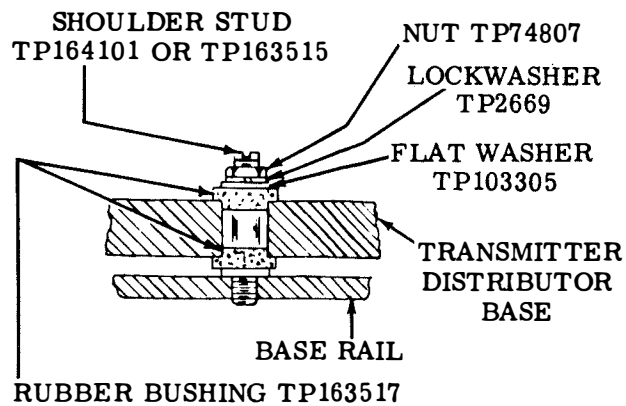
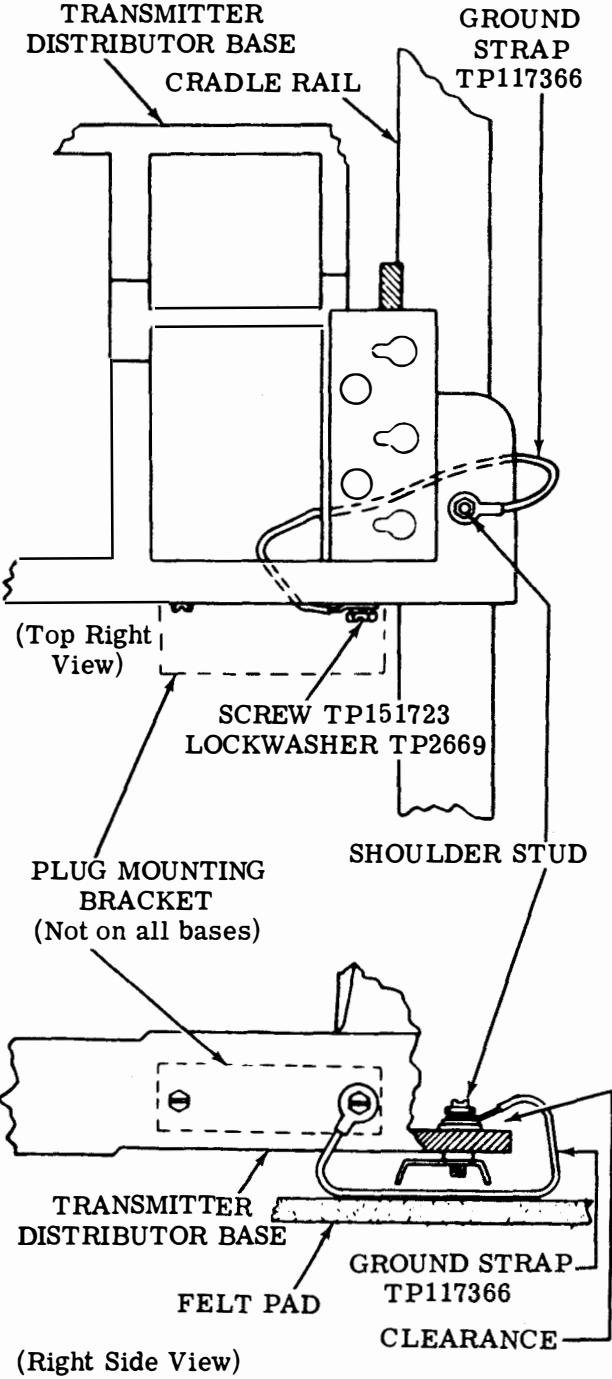

Figure 8-6. Isolation Mounting of TD Base
Figure 8-7. Installation of TD Base Ground Strap
(4) Place a rubber bushing with the smaller diameter downward on the three studs that extend up through the mounting holes of the base. The smaller diameter of the bushing must extend down into the base mounting holes. Place a washer, lockwasher and nut provided on each stud. Place the terminal of the ground strap on top of the washer on the right rear stud followed by the lockwasher and nut; do not tighten the nuts at this time. Refer to Figures 8-6 and 8-7. Couple the TD shaft to the keyboard shaft using the flexible coupling provided. The flexible couplings should be installed with the external hub on the TD base shaft. Use the play in the TD base mounting holes to align the shafts; check alignment with a straight edge. Tighten the TD base mounting nuts and the coupling setscrews. To prevent vibration do not allow the terminal nor the wire of the
(4) Insert and tighten the three shoulder studs provided with base into the TD base mounting holes in the front and rear cradle rails. Place a rubber bushing over each stud so that the smaller diameter of the bushing is upward. Position the TD base over the studs so that the smaller diameter of the bushings extend into the mounting holes of the base. The base should rest on the shoulders of the bushings. Refer to Figure 8-6.
(5) Route the ground strap forward and under the base, then to the rear under the rear cradle rail. Refer to Figure 8-7. Place a rubber bushing with the smaller diameter downward on the three studs that extend up through the mounting holes of the base.
(6) The smaller diameter of the bushing must extend into the base mounting holes.
(7) Place a washer, lockwasher, and nut on each stud.
(8) Place the terminal of the ground strap on top of the washer on right rear stud.
(9) Place a lockwasher and a nut on the right rear stud.
(10) Do not tighten the nuts at this time. Refer to Figures 8-6 and 8-7.
(11) Couple the TD shaft to the keyboard shaft using the flexible coupling provided. The flexible couplings should be installed with the external hub on the TD base shafts. Use the play in the base mounting holes to align the shafts. Check with a straightedge.
(12) Tighten the mounting nuts and the coupling setscrews.
(13) To prevent vibration do not allow the terminal or the wire of the ground strap to touch the TD base. Allow some slack in the wire. If necessary, bend the terminal upward for clearance. Refer to Figure 8-7.
(14) Mount the TD units on the base with the screws and washers provided in a bag attached to the base. Tighten the mounting screws friction tight.
(15) Adjust position of the TD units on the base laterally so that the gears are in alignment.
(16) Allow a minimum amount of backlash between the gear teeth at the closest point.
(17) Check to see that the TD units are parallel.
(18) Tighten the screws.
(19) Install the plate with studs on the front of